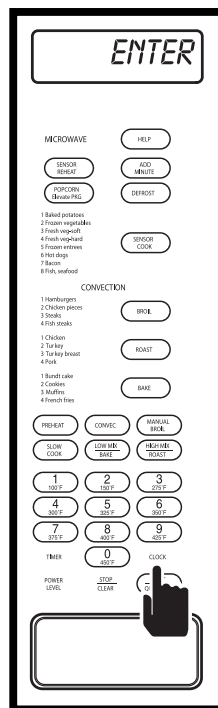

Figure 3-65.
1. Press CLOCK key, “ENTER - TIME ” will flash on the digital display (See Figure 3-65).